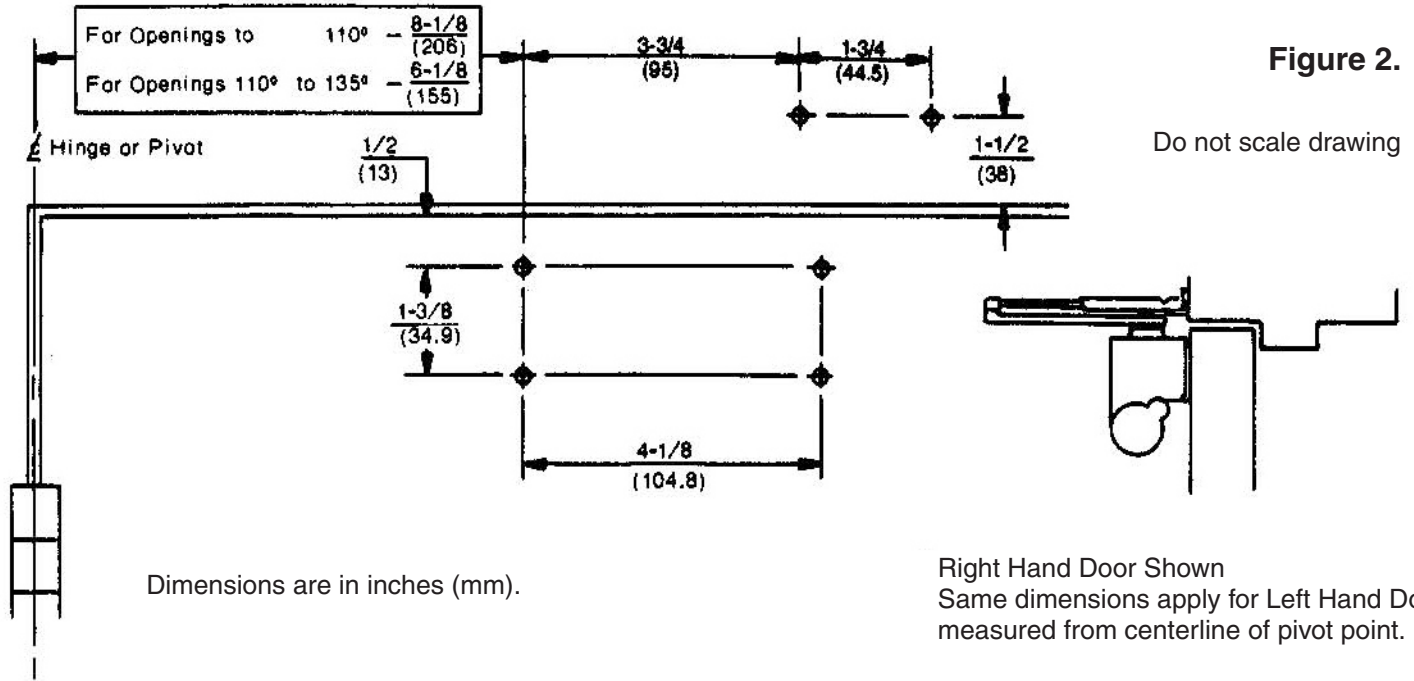

Figure 2.
1. Using the template at the top of page 2, see figure 2, select the angle of opening desired. Locate and mark for 4 holes on the door for the closer body and 2 holes on the frame for the arm shoe.